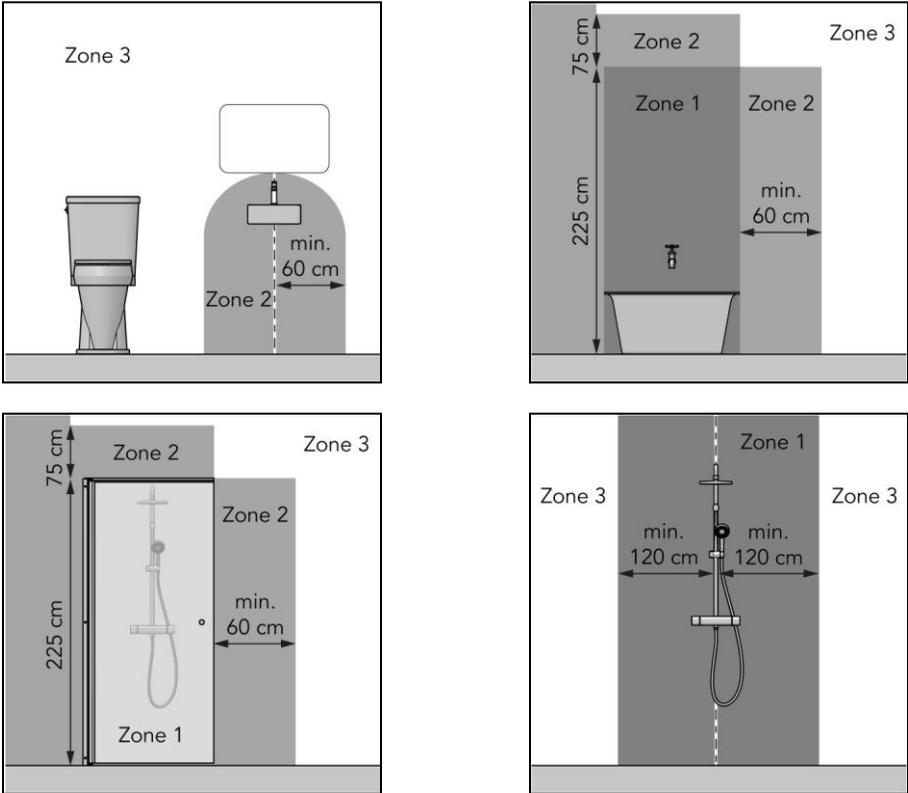

Figure 1
- In zone 3 of a toilet room or a bathroom with a bath, a shower with a screen or a shower without a screen (Figure 1);